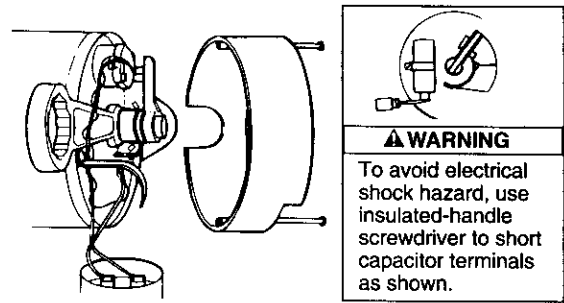

Figure 14 – Hold Shaft
2. If impeller must be replaced, loosen two machine screws and remove motor canopy (see Figure 14).
3. **WARNING** Capacitor voltage may be hazardous. To discharge capacitor, hold insulated handle screwdriver **BY THE HANDLE** and short capacitor terminals together (see Figure 14). Do not touch metal screwdriver blade or capacitor terminals. If in doubt, consult a qualified electrician.
- Hold motor shaft with 7/16" open end wrench on shaft flats (Figure 14, Page 8) and screw impeller onto shaft. **Be sure you do not touch capacitor terminals with body or any metal object.** Tightening impeller will automatically locate seal in correct position.